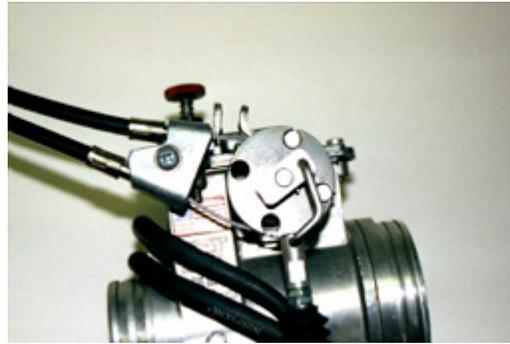

Figure 1.
10. Install the pull cable (long shoulder on cable) into the 4:00 position and the return cable end into the 1:00 position of the cable wheel. Secure cables to cable bracket by replacing end piece and Phillips screw. See figure 1.
16. Install fuel tank and connect fuel line to petcock and secure with provided pinch clamp. Refer to figure 1. Do not bolt tank in place, as minor adjustments may be necessary.